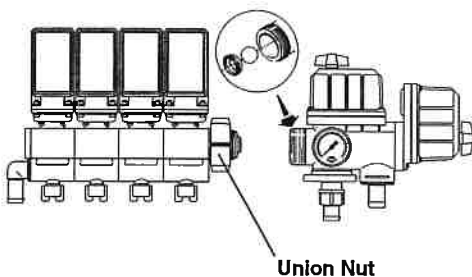

Fig 39
- 2 Unscrew the union nut (Fig 39) and pull the valve away from the distribution valves.